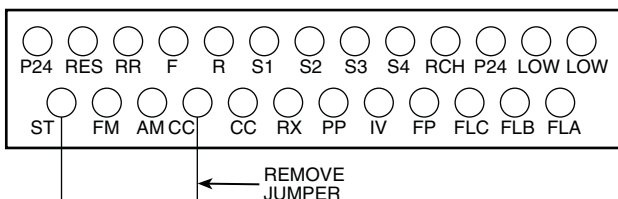

Fig. 53 — Jumper Removal to Disable Motor
1. Drive enable jumper is installed from terminals ST-CC (factory supplied) (see Fig. 53).
4. Remove jumper from terminals ST-CC (see Fig. 53) and replace VFD cover.